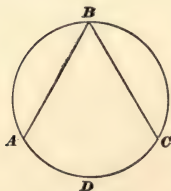

FIG. 43.
72. An **inscribed angle** is one whose vertex lies on the circumference of a circle and whose sides are chords. It is measured by one-half the intercepted arc. Thus, in Fig. 43, ABC is an inscribed angle, and it is measured by one half the arc ADC .
EXAMPLE.—If in Fig. 43, the arc $ADC = \frac{2}{3}$ of the circumference, what is the measurement of the inscribed angle ABC ?